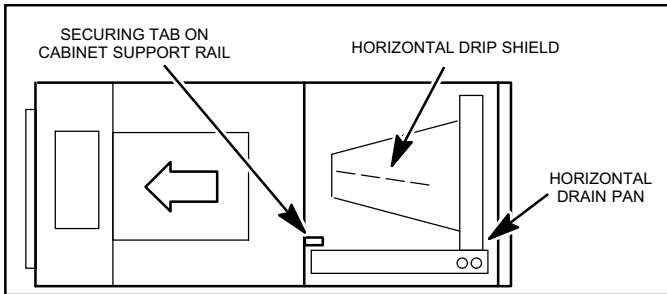

Figure 5. Left-Hand Discharge Configuration
8. From the upflow position, flip cabinet 90° to the left and set into place. Replace blower assembly. Secure coil in place by bending down tab on cabinet support rail as illustrated in figure 5 on page 6.